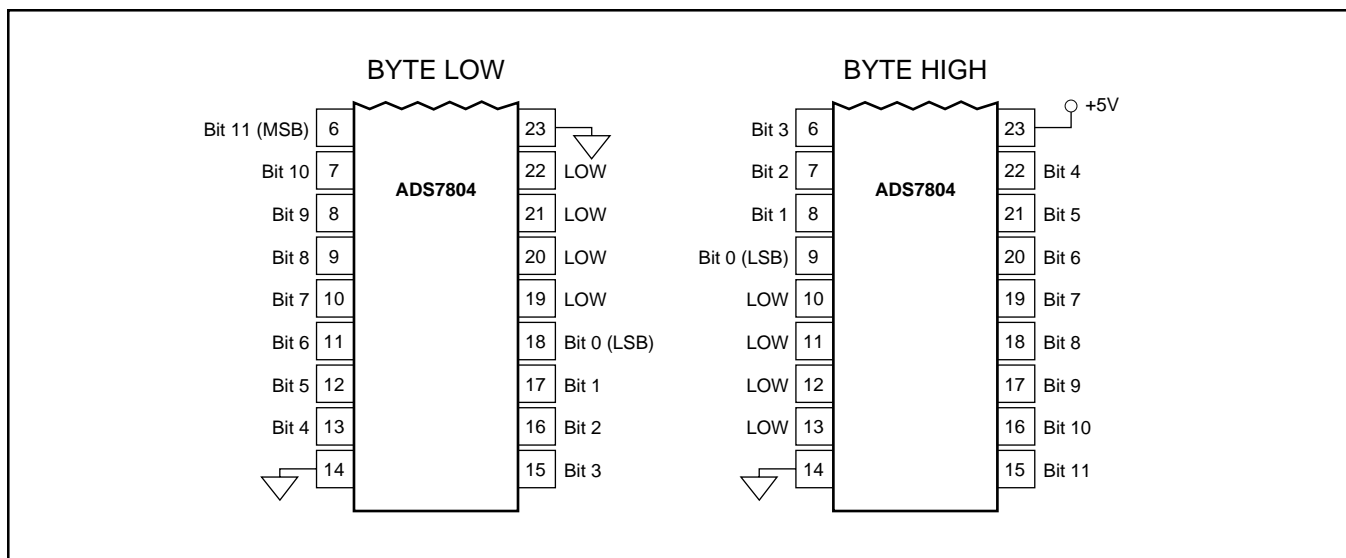

FIGURE 2. Bit Locations Relative to State of BYTE (pin 23).
NOTE: (1) See Figures 2 and 3 for constraints on data valid from conversion "n-1".
The ADS7804 outputs full or byte-reading parallel data in Binary Two's Complement data output format. The parallel output will be active when  $\overline{R/\overline{C}}$  (pin 24) is HIGH and  $\overline{CS}$  (pin 25) is LOW. Any other combination of  $\overline{CS}$  and  $\overline{R/\overline{C}}$  will tri-state the parallel output. Valid conversion data can be read in a full parallel, 12-bit word or two 8-bit bytes on pins 6-13 and pins 15-22. BYTE (pin 23) can be toggled to read both bytes within one conversion cycle. Refer to Table III for ideal output codes and Figure 2 for bit locations relative to the state of BYTE.